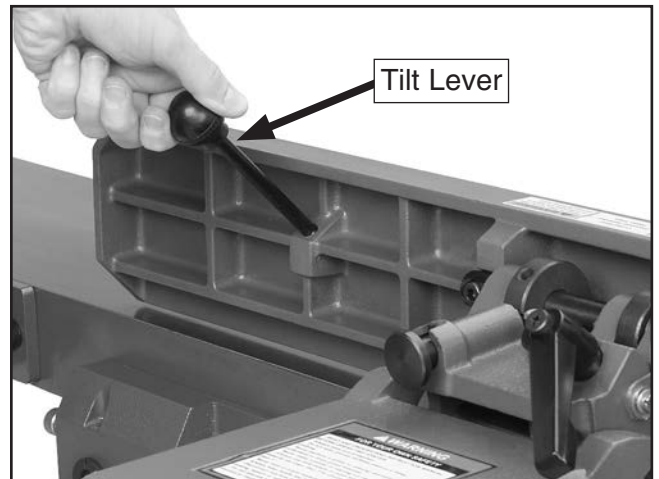

Figure 22. Installing fence tilt lever.
24. Install fence tilt lever, as shown in **Figure 22**.